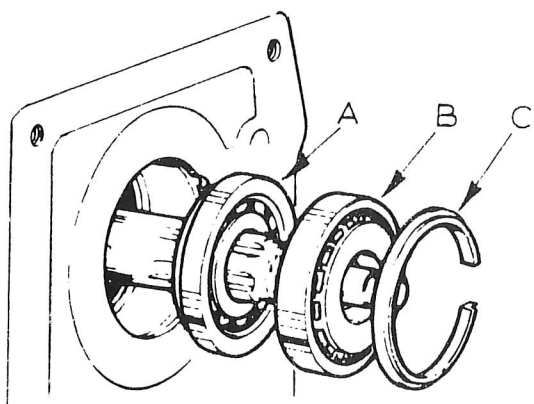

Fig. 39. 3rd. MOTION SHAFT
13. Using Special Tool (25A), fit bearing (A, Fig. 39) with its stepped face towards front of gearbox. Again, using the same tool, insert outer track of second bearing (B, Fig. 39), then fit bearing. Fit snap ring (C, Fig. 39) behind bearing, ensuring that gap in ring is AWAY FROM cut-out in casing bore, and that step is AWAY FROM bearing. Remove Special Tool (31A).